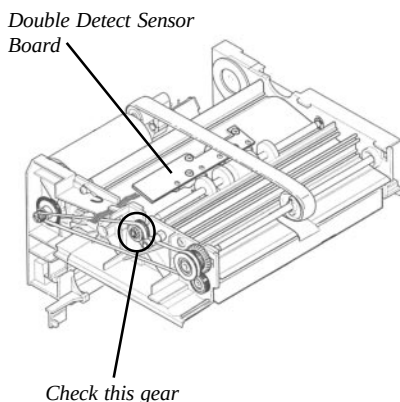

Figure 5-18. Make sure the gear highlighted by the circle is not broken.
1. Verify that the gear highlighted in Figure 5-18 is not broken.